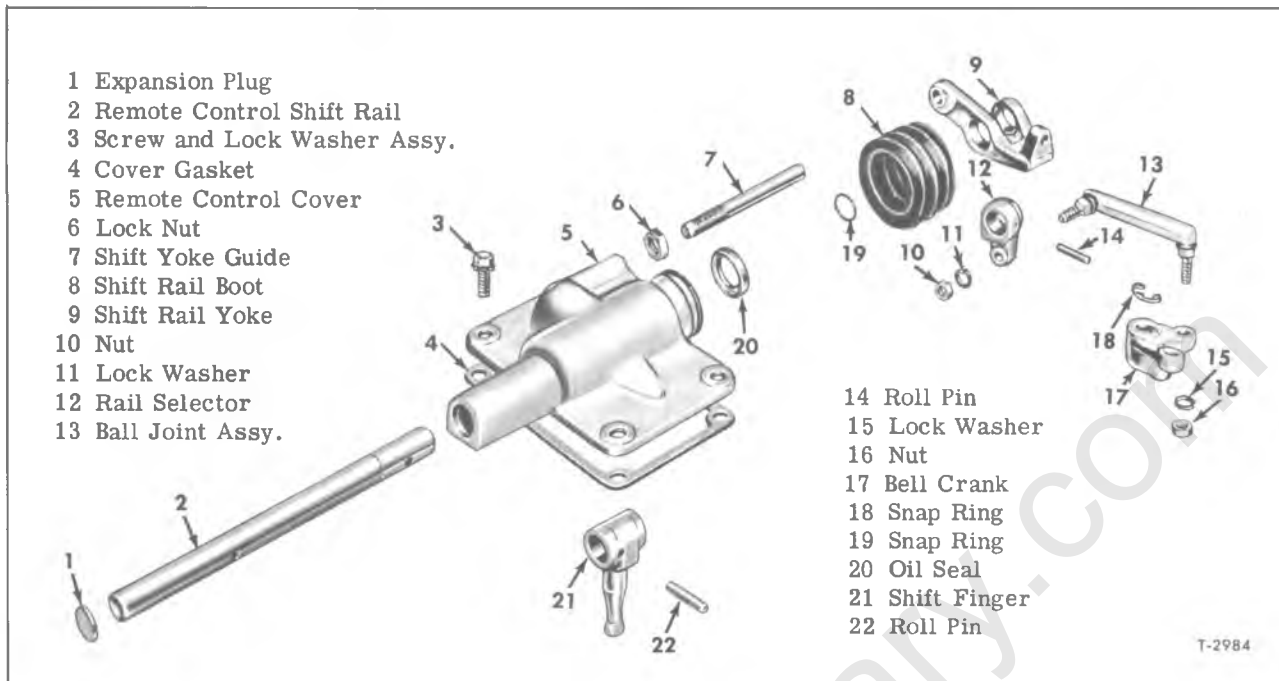

Figure 4—Remote Control Assembly (New Process 435)
Tilt cab vehicles with manual transmissions have remote control assemblies as shown in figures 4, 5, 6, and 8. Should parts become worn or defective make repairs as described in the following text:
NOTE: Key numbers in text refer to figure 4.
1. Press or drive shift rail yoke housing out of bore in shift rail yoke (9, fig. 4).
1. Press or drive oil seal (20, fig. 4) out of remote control cover.